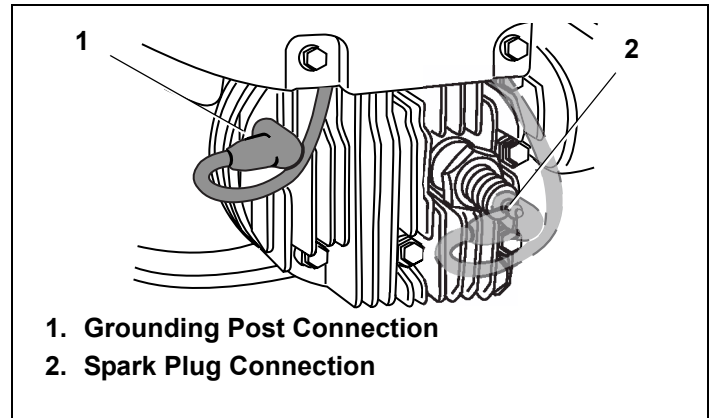

Figure 29. Typical Grounding Post/Spark Plug Connection
- Carefully attach the spark plug wire to the grounding post, if provided. See Figure 29.